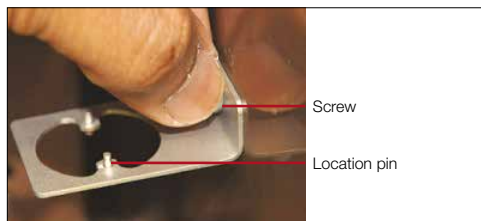

Figure 3. Attaching the mounting bracket.
- Secure the bracket against oven wall and align the screw to the fitting and into the wall (Figure 3).